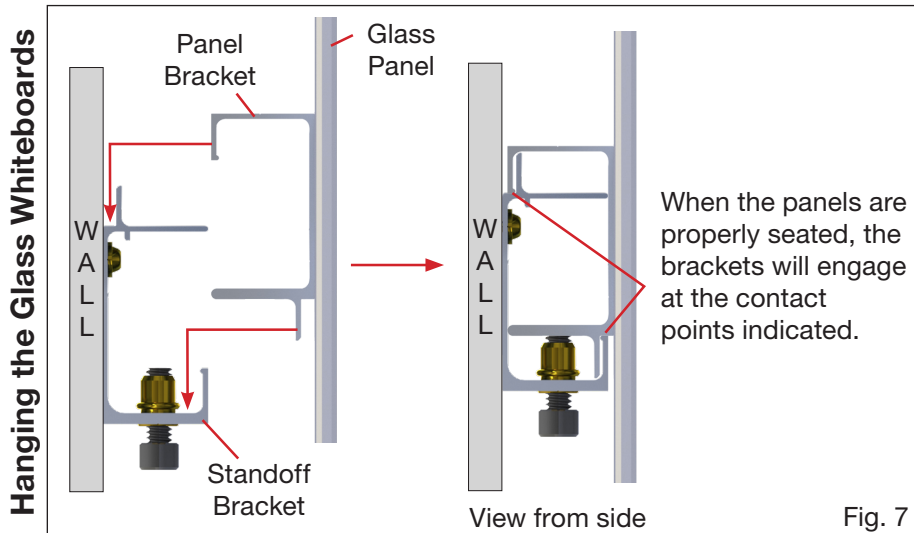

Fig. 7
- With the help of at least one other person, raise the glass whiteboard so that the panel brackets are just above the wall-mounted standoff brackets. Carefully lower the glass whiteboard onto the standoff brackets, engaging them as shown in Fig. 7